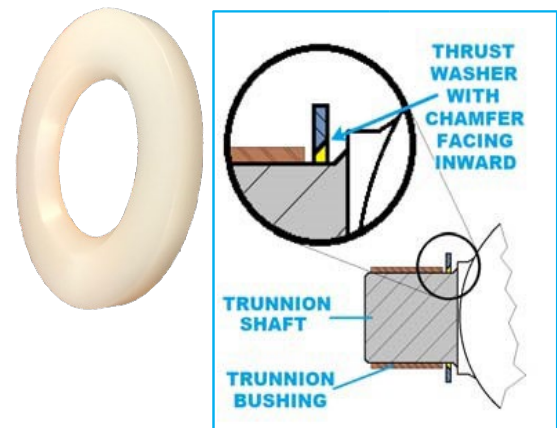

Figure 29: Thrust washer of Seakeeper 9
- INSERT** thrust washer (Seakeeper 9, 16, & 18 only) on trunnion with chamfer facing toward cylinder per figure 29.